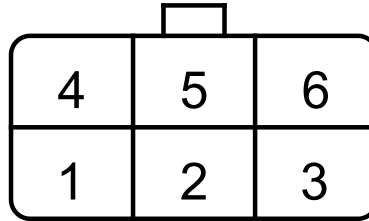

Figure 2 Interface Cable J1 Connector Pinout
- b. Measure the DC voltage at the interface cable J1 connector (Figure 2), between pins 1 and 2. A voltage reading of approximately 12 Vdc should be present.